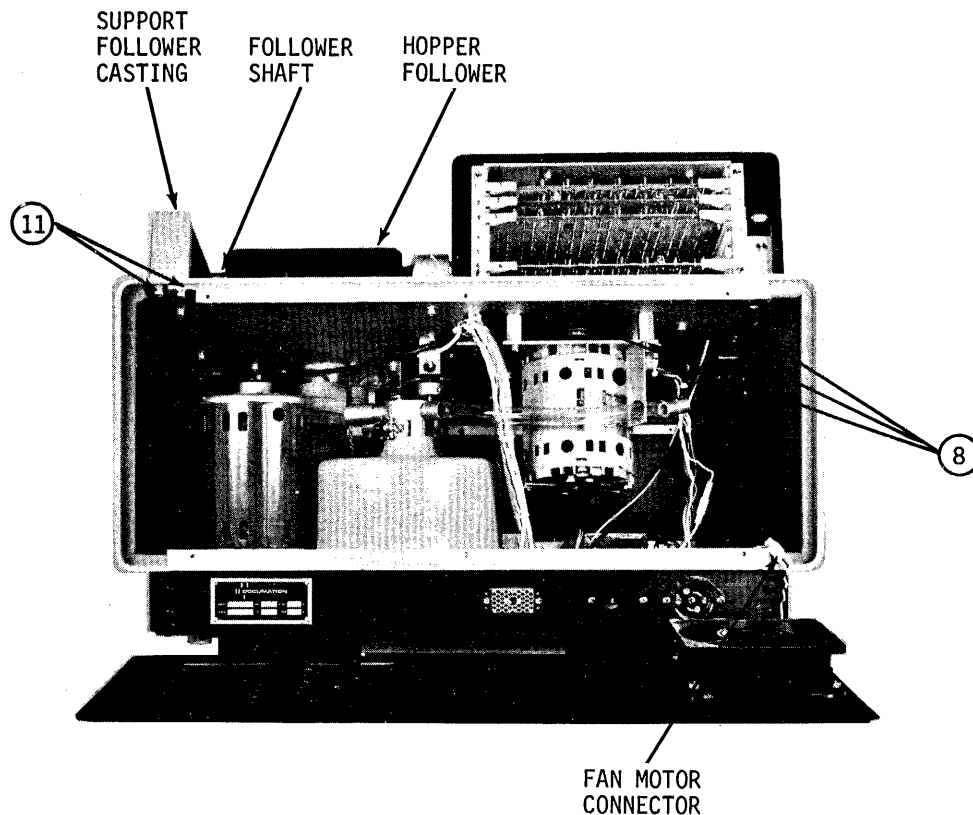

Figure 9-14. Card Cage Repositioning
- f. Using a 9/64 Allen wrench, remove three socket head screws (8) holding card cage in place. Move card cage to rear and remount using two rear screws, figures 9-14 and 9-15.
- c. Using a 9/64 Allen wrench, remove three socket head screws (8) holding card cage in place. Move card cage to rear and remount using two rear screws, figures 9-14 and 9-15.
- e. Using a 9/64 Allen wrench, remove three socket head screws 8 holding card cage in place. Move card cage to rear and remount using two rear screws, figures 9-14 and 9-15.